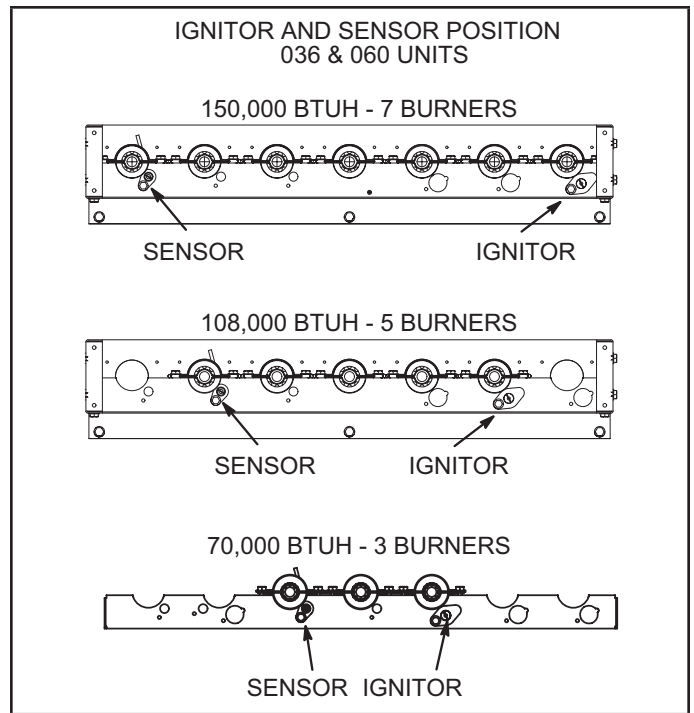
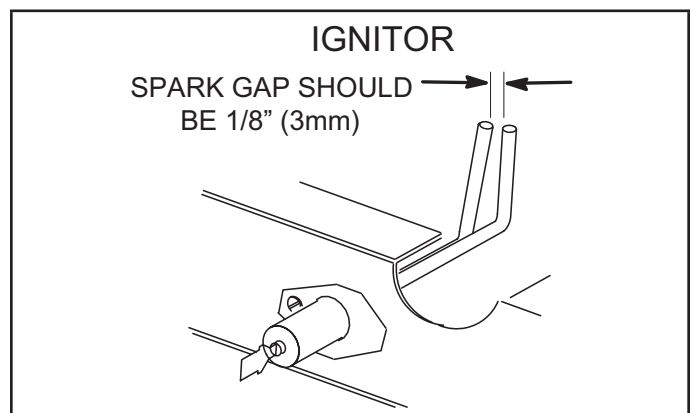
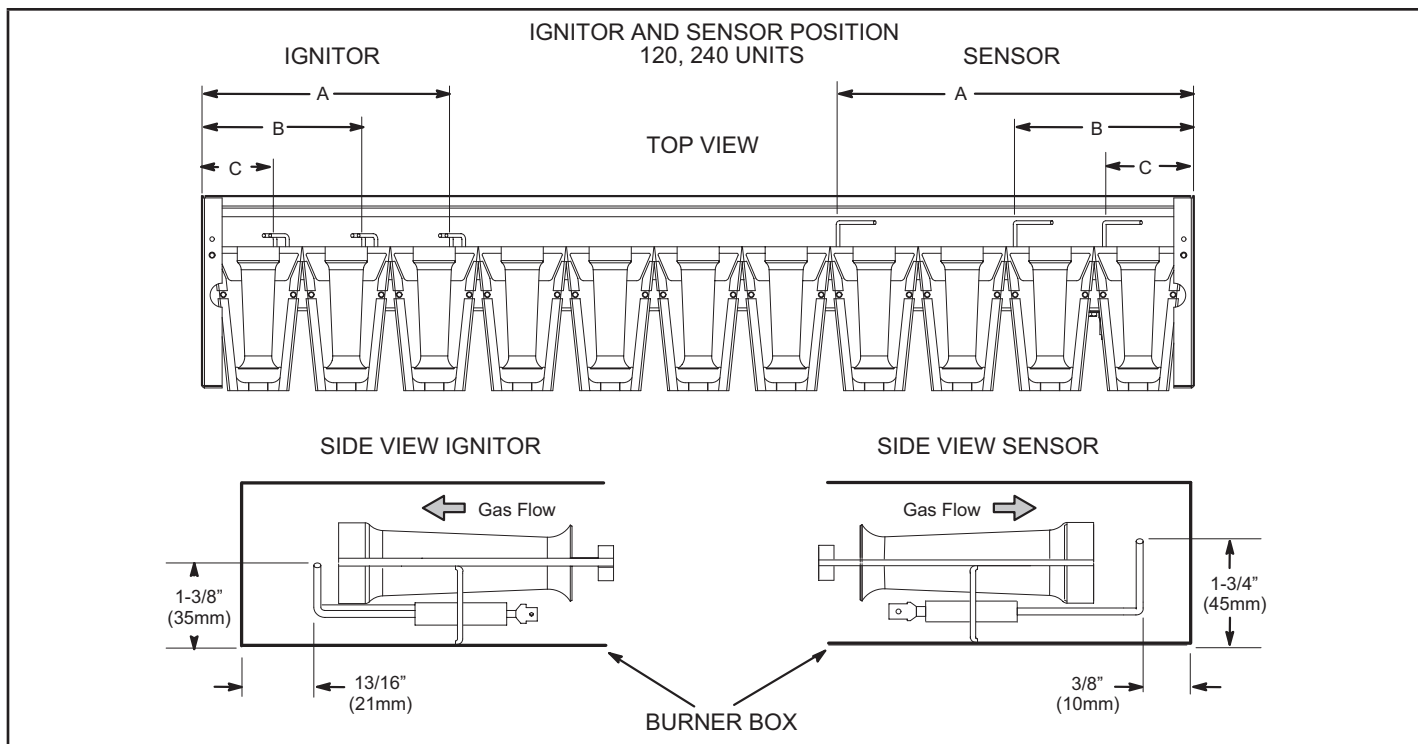

FIGURE 61
FIGURE 62
FIGURE 63
- 5 - Locate the ignitor under the right burner for 036 and 060 units. See FIGURE 61. Locate the ignitor under the left burner for 120 and 240 units. See FIGURE 63 and TABLE 27. Use appropriately sized twist drills or feeler gauges to check the spark gap as shown in FIGURE 62.